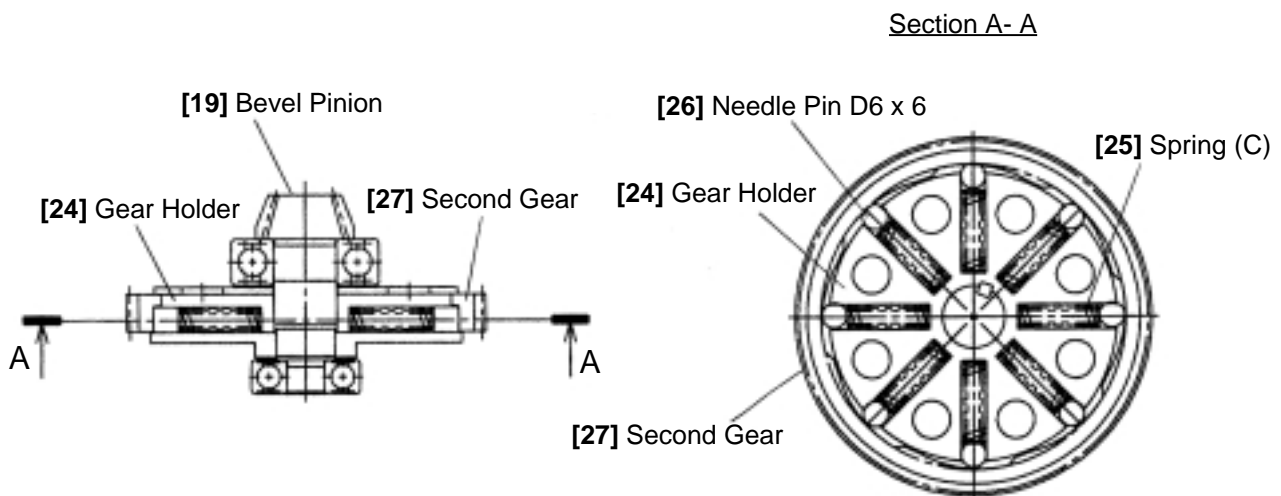

Fig. 13
Press-fit the Ball Bearing 6202DDCMPS2L [21] to the Bevel Pinion [19] and insert the Washer [22] and then Washer (A) [23] to the bevel pinion. After mounting the Feather Key 3 x 3 x 8 [20] in the bevel pinion, press-fit the Gear Holder [24] to the bevel pinion. Then, apply power tool grease No. 29 to the inner circumference of the Second Gear [27] and mount it on the outer circumference of the gear holder. Place the Needle Pin D6 x 6 [26] without inclination as shown in Fig. 13, then press in Spring (C) [25]. Then press-fit the Spacer [28] and then Ball Bearing 629VVC2PS2L [29] to the bevel pinion.